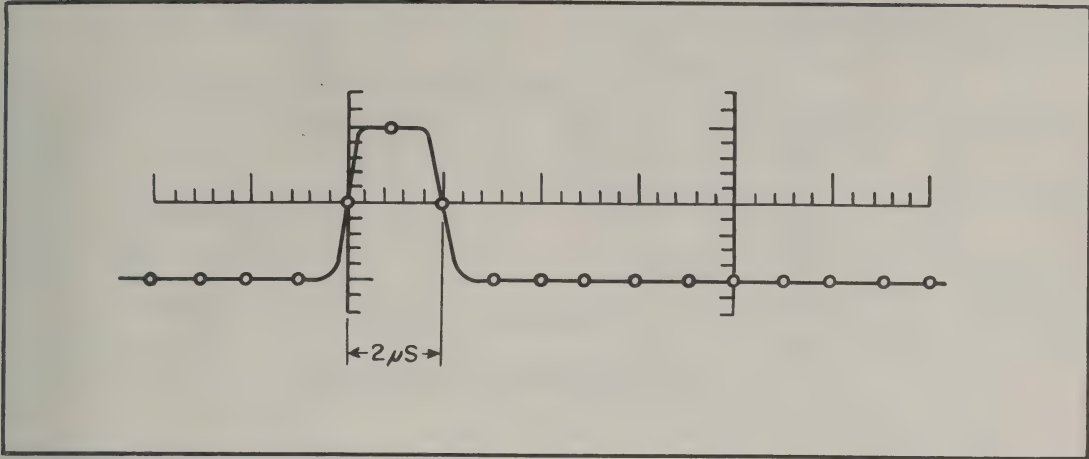

Figure 4-4. Typical Pattern for Measurement of Two-microsecond Pulse
(4) Set SELECTOR SWITCH to ZERO SET and adjust ZERO SET control until METER pointer is on line marked "zero set"
(5) Set SELECTOR SWITCH to CW and adjust POWER SET control to produce a METER reading of +3 dbm.
(6) Set SELECTOR SWITCH to RATE X1.
(7) Make necessary adjustments on Oscilloscope TS-239/UP to obtain a sweep approximately 15 microseconds long with markers at 1-microsecond intervals. It will be found convenient to adjust the SWEEP TIME—FINE INCREASE and the HORIZONTAL POSITIONING controls of the oscilloscope so that alternate 1-microsecond markers coincide with major divisions on the illuminated scale. Minor divisions then represent 0.4 microseconds. (See figure 4-4.) The SYNC SELECTOR on the oscilloscope should be set to HI EXT, and the SYNC VOLTAGE control should be on the plus side of center. The MULTIPLIER switch should be set to 1 and the GAIN control (vertical) adjusted to provide an image of the pulse approximately 10 scale divisions high.
(8) Adjust the VERTICAL POSITIONING control of the oscilloscope so that the illuminated horizontal scale line passes through the half-amplitude points on the image of the pulse.